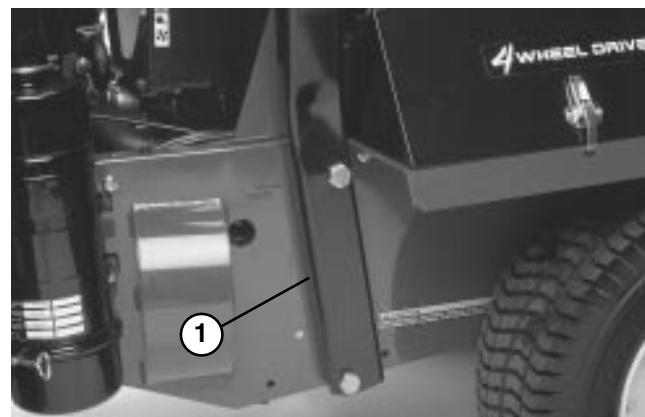

Figure 14
1. Lower roll bar onto frame, aligning mounting holes as shown in Fig. 14.
- Secure roll bar to frame with (4) 3/4 x 3-1/2" lg. bolts, lockwashers, and nuts (Fig. 14). Tighten securely.